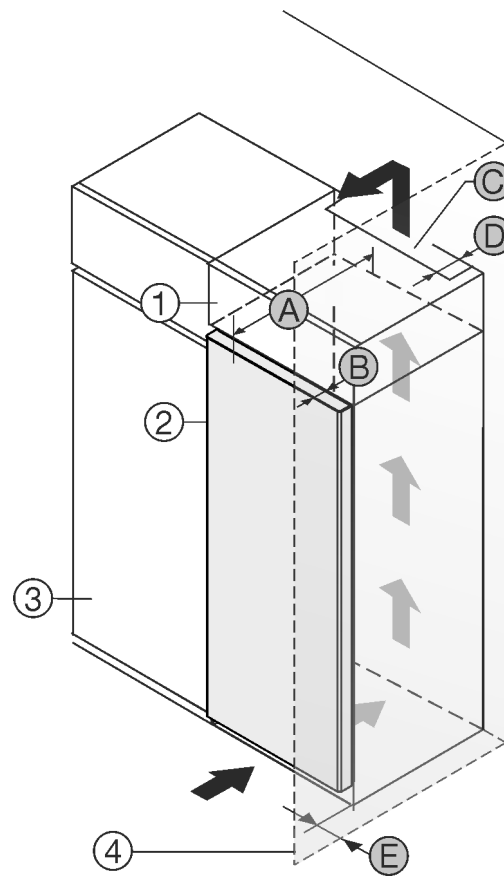

Fig. 1
- (1) Top cupboard \*
- (2) Appliance \*
- (3) Kitchen cabinet \*
- (4) Wall \*
- (A) Appliance depth \*
- (B) Door depth \*
- (C) Ventilation cross section \*
- (D) Distance to the back of the appliance \*
- (E) Distance to the side of the appliance \*
You can place the appliance directly beside the kitchen cabinet Fig. 1 (3).
There must be a ventilation shaft at the depth Fig. 1 (D) of the back of the top cupboard over the entire width of the top cupboard.\*
The ventilation cross-section Fig. 1 (C) must be maintained under the ceiling.\*
If the appliance is set up with the hinges next to a wall Fig. 1 (4), the distance between the appliance and the wall must be at least 13 mm.\*
If the appliance is set up with the hinges next to a wall Fig. 1 (4), the distance between the appliance and the wall must be at least 20 mm.\*
In order to be able to fully open the door, the appliance must protrude by the depth of the door Fig. 1 (B) from the front of the kitchen cabinet. The appliance may protrude further depending on the depth of the kitchen cabinets Fig. 1 (3) and whether wall spacers are used.\*